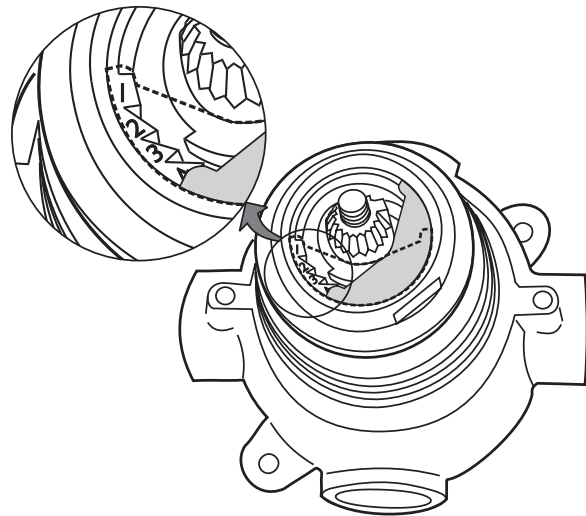

Figure 10. Setting the blend control
1. Remove the handle (1) by undoing the nut (1a) using the 10 mm A/F box spanner and removing the washer (1b). Pull off handle
3. Pull off shield (3).
4. The blend control stop (white crescent shaped plastic moulding) can then be removed. (In it's factory set position "0" - shown dotted in Figure 10 - it does not limit the lever handle movement so the highest possible temperature will be possible).
5. Insert the limit stop in position 4 (shown shaded in Figure 10).